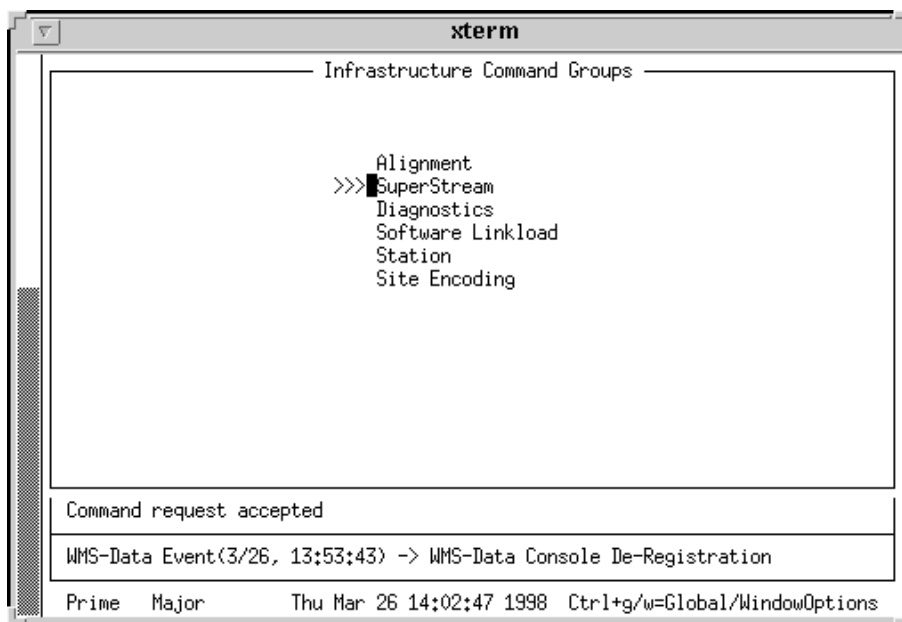

Figure 4-1: Selecting SuperStream from the Infrastructure Command Groups Menu
1. To access SuperStream commands, From the Infrastructure Command Groups menu, use the <tab> to position the cursor to the left of the listing SuperStream and press: <Return> (see Figure 4-1).